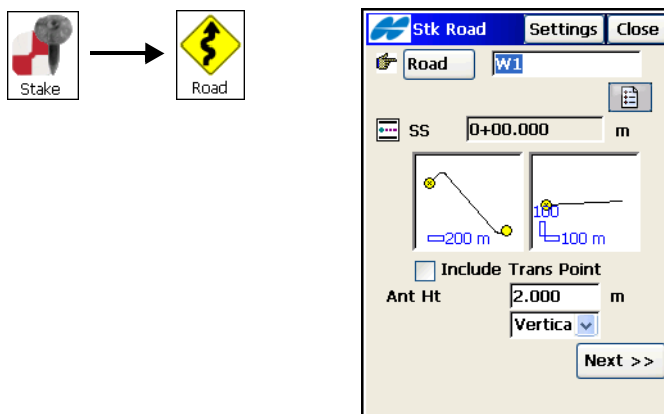
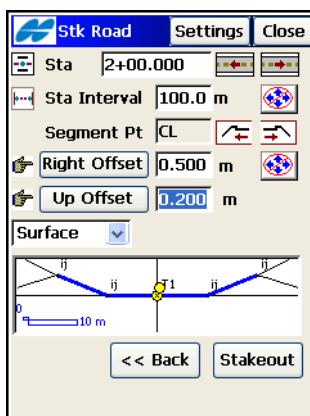

Figure 9-37. Stakeout Road
Figure 9-38. Stakeout Road (second screen)
2. On the **Stk Road** screen (Figure 9-37), set the *road*, *horizontal*, and *horizontal* and *vertical* alignments to be staked out and the starting station, the height and the type of the antenna height (GPS mode), or the height of the rod (target) (TS mode). If staking the transition points (points where horizontal elements of the road change), check the appropriate field (Figure 9-37). Tap **Next**. A second **Stk Road** screen displays (Figure 9-38 on page 9-29).